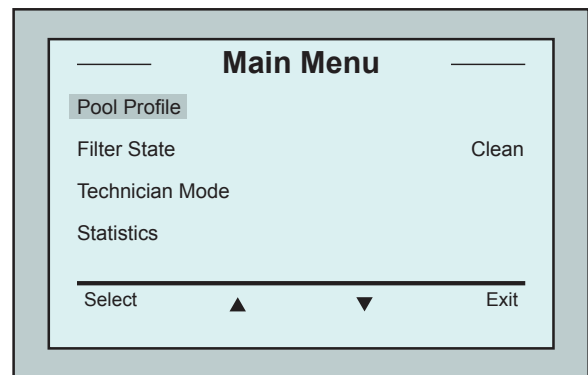

Figure 2: *Main Menu* screen
2. Press **Menu** to access the *Main Menu* screen (Figure 2).